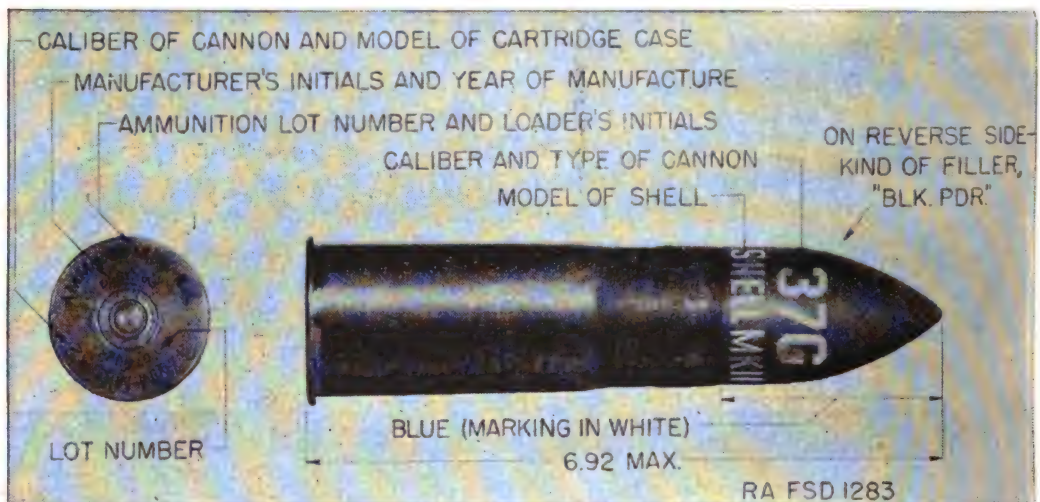

FIGURE 59.—Shell, fixed, practice, Mk. II, with fuze, practice, M38, 37-mm gun M1916.
**79. Subcaliber ammunition.**—*a. General.*—The shell, fixed, practice, Mk. II, with fuze, practice, M38, 37-mm gun, M1916, is authorized for use in the 37-mm gun M1916 when used for subcaliber purposes with the 155-mm gun M1 and M1A1. This ammunition is issued in the form of fixed complete rounds. The projectile is fitted with a base fuze and contains a low explosive filler of black powder. When used for target practice purposes, the low explosive serves as a spotting charge. The complete round is shown in figure 59, and may be identified by the marking indicated thereon.